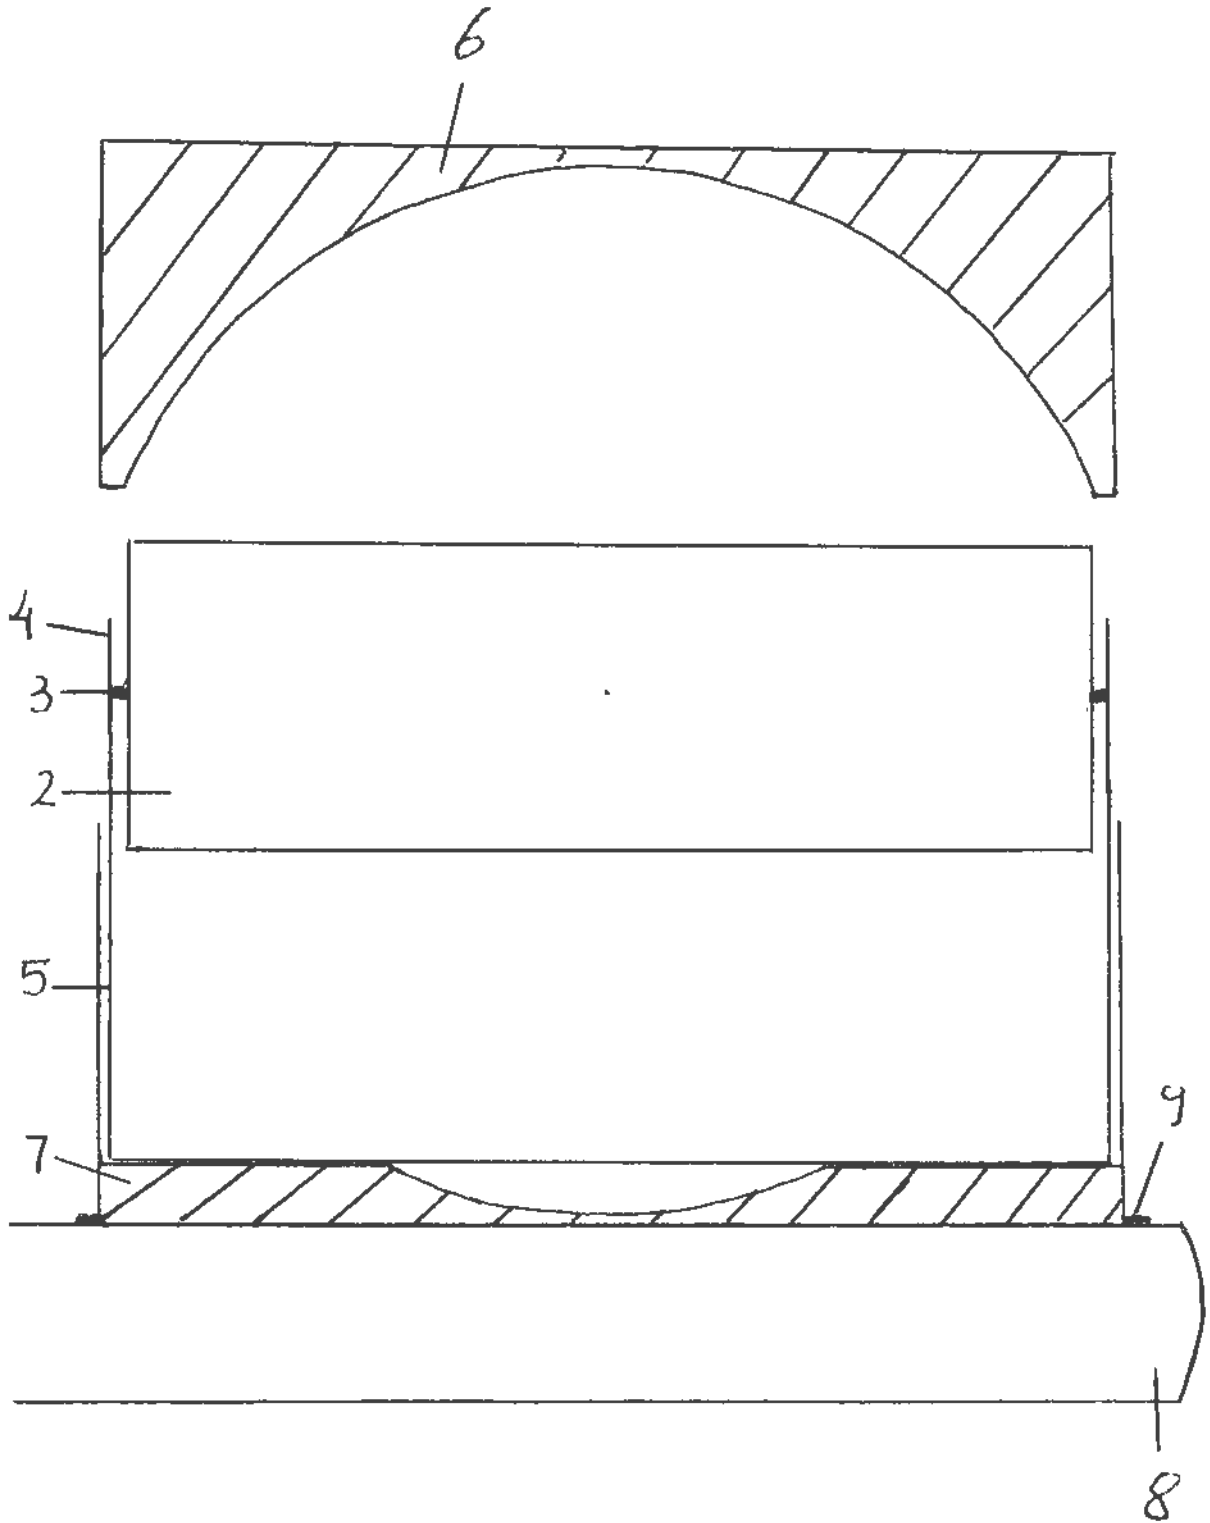
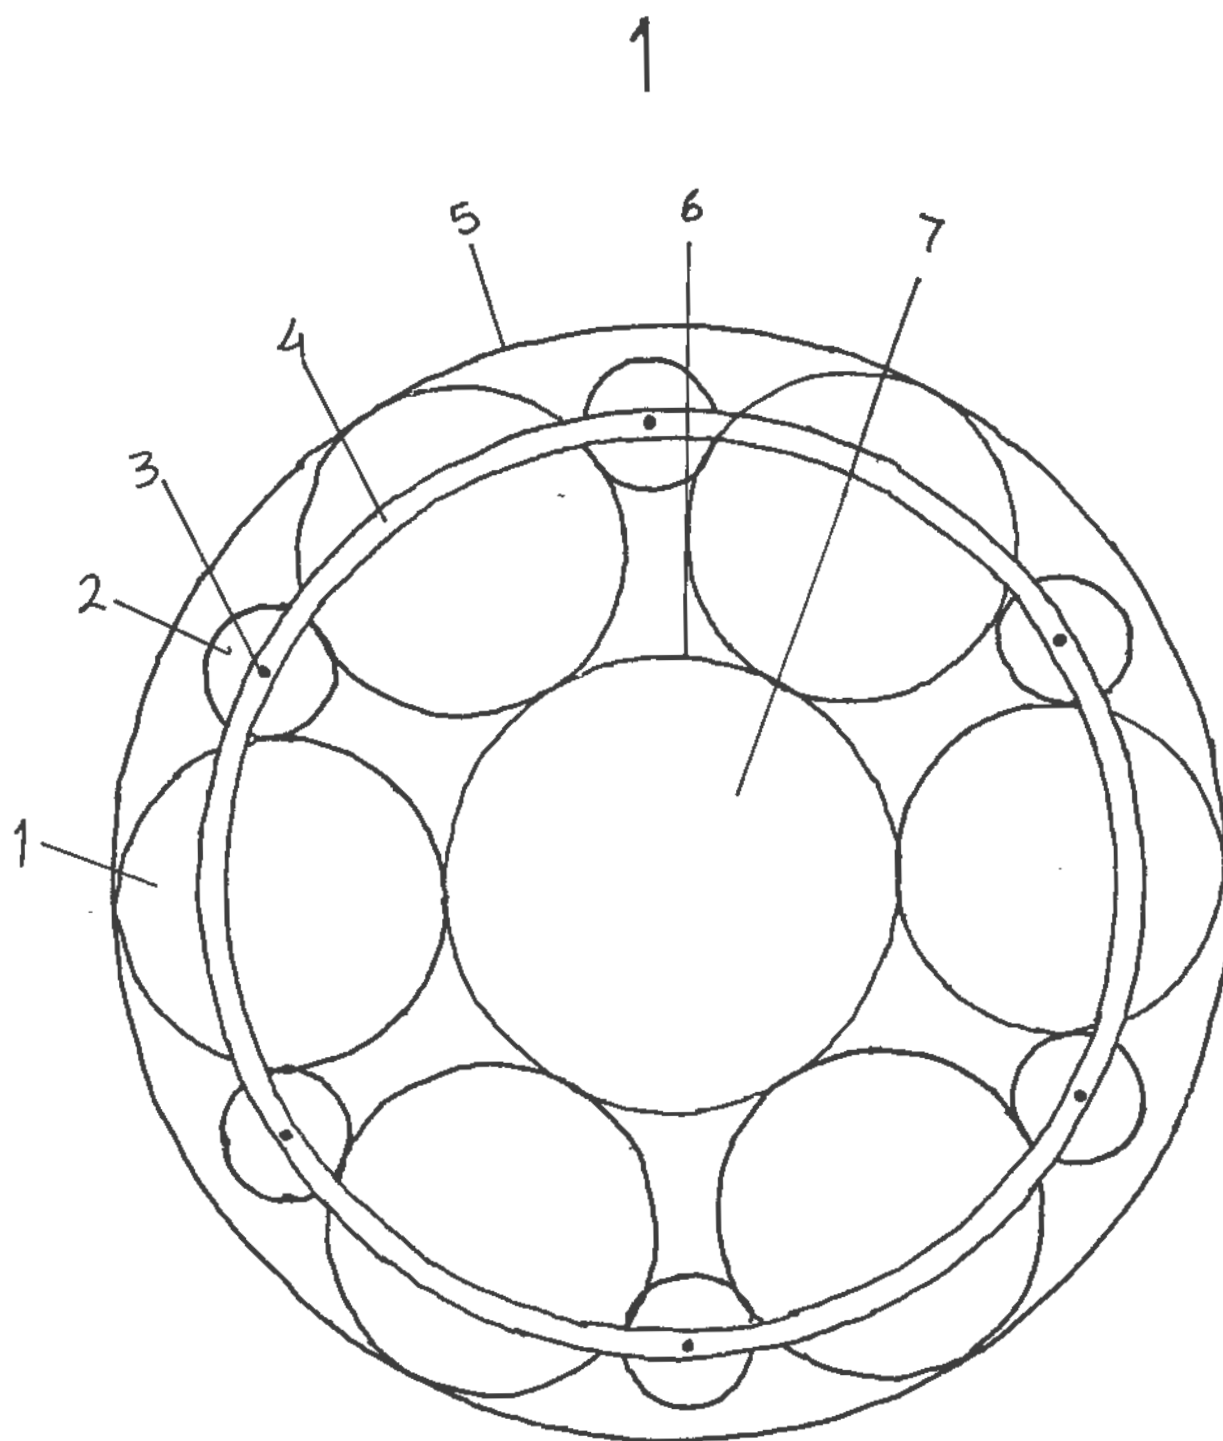
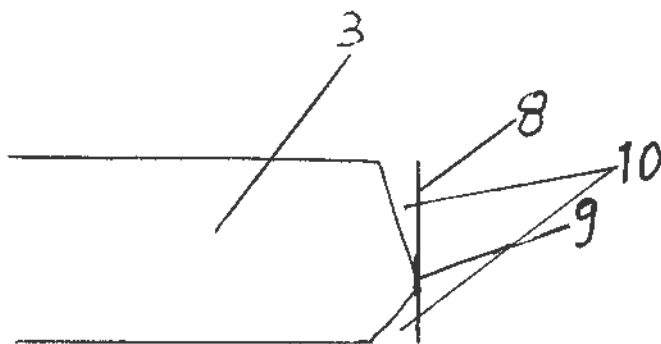

FIG. 4
FIG.1
FIG.3
FIG. 4 is a longitudinal view of the ball bearing without the ball. The shaft 8 which rotates the inner ring 7 and are connected with a metal strip, attachment 9. Between the inner ring 7 and the stand of the cage 5 there is a tiny space which is the lubricant. There is the possibility that the cage 4 will move faster than the [45] balls thus the rollers 2 will touch the balls from [45] behind a lubricant will make this touch weak. The harmony ball bearing should initially be made without using lubricant and observe the relation between the cage and the balls. The ideal is the rollers not to touch the balls either in front or behind. If the rollers touch the balls from behind the number of stands 5 could be reduced. For example, not under every axle 3 should there be a stand but under numbers 1, 3, 5, 7, 9, 11 axles. At the top it is the stationary outer ring 6 which [50] holds the balls 1.
3, axle is attached to the cage. A hole is made above the stand 5 and it is in the middle of the width of the circular ring of the cage as seen in fig. 1. The axle is inserted between the 2 holes of the 2 sides of the ring of the cage. The axle is made of steel. Here lubrication is vital between the axle and the roller which are in contact. The height of the axle is the radius of the ball 1 minus the curvature (if there is one) of the inner [75] ring 7, see fig. 4.
9, attachment of the inner ring to the rotating shaft by screw or ditch in fig. 4. This attachment is a metal strip, extension of the inner ring 7.
Describing the parts of the ball bearing as in FIG. 1, above:
1. Balls, bigger than the rollers (cylinders) (2), which touch the inner ring (6) and the outer ring (5) receiving motion from the inner ring and supporting the outer ring. They rotate and hold and support [15] the weight (load).
2. rollers that are cylinders rotating around the rods (3). The rods (3) are fixed to the circular cage. The rollers receive motion from the balls.
3. rods (axles) that are steel cylinders they do not rotate because they are fixed to the cages (two circular rings) (4). They hold the rollers (2) and allow the rollers to rotate.
- [20] 4. circular cages one at the top (as in diagram (FIG. 1) cross section) and the other at the bottom. What holds the two circular cages are the rods (3) and the cages hold the rods (3). When the shaft (7) rotates the cages move circularly in the direction of the balls (1) that rotate.
5. the outer ring that is static (does not move). It touches only the balls (1). It takes the weight and transfers it to the balls.
- [25] 6. Inner ring that rotates as the shaft (7) rotates. It is fixed to the shaft (7).
7. Shaft that rotates giving motion to the inner ring (6). The inner ring gives motion to the balls (1) and the balls give motion to the rollers (2).
As the shaft (7) rotates the inner ring (6) rotates at the same circular velocity because the inner ring is fixed to the shaft (7). The inner ring touches the balls (1). Therefore the balls (1) rotate. If the shaft (7) and the inner ring rotate counter clockwise the balls rotate clockwise. The balls hold the weight (load). The rollers do not touch either the inner ring (6) nor the outer ring (5) they are in contact with the balls and if the balls rotate clockwise the rollers rotate counter clockwise. The rollers (2) rotate because inside them they have holes that the rods (3) are inserted. The rods are fixed to the cage but they can rotate if they have discs 8 (see FIG.3) the discs 8 are fixed, one with the rods 3 and there is a steel clip 9 which is elastic attached between the rods 3 and the discs outside the cages and the rods are slightly smaller than the holes of the cages. It is better for the rods to move. There is less resistance from the rotation of the rollers.